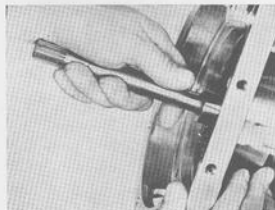

Fig. 4-99. Withdrawing front clutch assembly
24. Withdraw the front clutch assembly and input shaft complete, see Fig. 4-99. Take care of the thrust washers. Take out the front brake band.